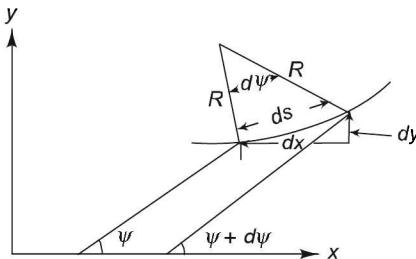

FIGURE 10.7 Relation between bending moment and slope.
2. Beam gets sagged on loading. There is a relation exists between bending moment (M) and second degree differential of a slope. Refer to Figure 10.7.